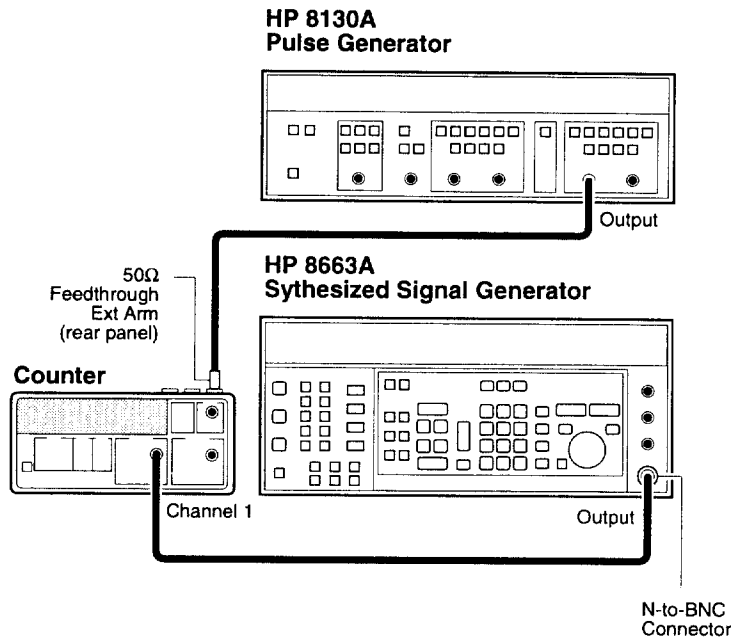

Figure 1-3. External Arm Test Setup (HP 53131A/132A Only)
- 2 Connect the equipment as shown in Figure 1-3.